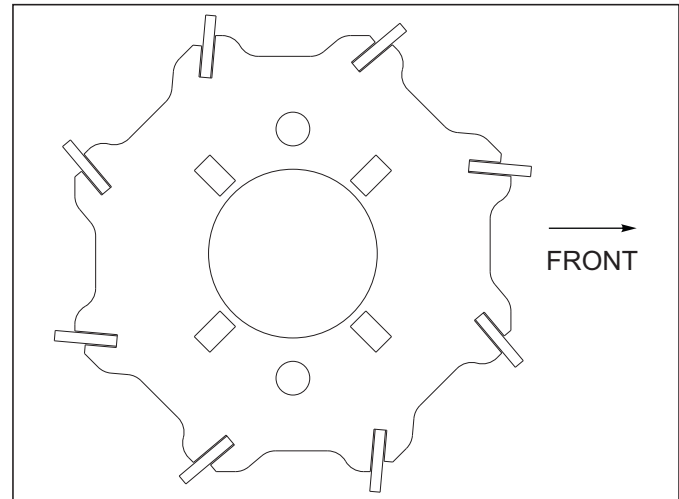

Figure 3-20: Flat Reel
5. Attach flat bar reels with angled blades as shown See Figure 3-20.